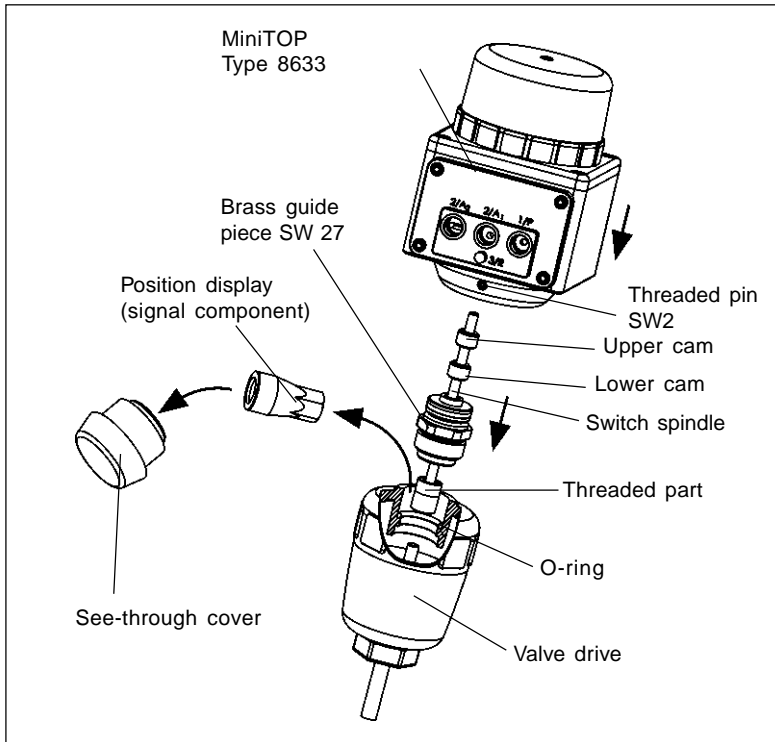

Fig. 2: Installation of the MiniTOP
- Then secure the MiniTOP housing onto the valve drive by moderately tightening the two threaded rods using an SW2 Allen key (**max. 0.4 Nm**). (See Fig. 2).
- Undo the threaded pins inset into the side of the housing using an SW 2 Allen key (see Fig. 2).